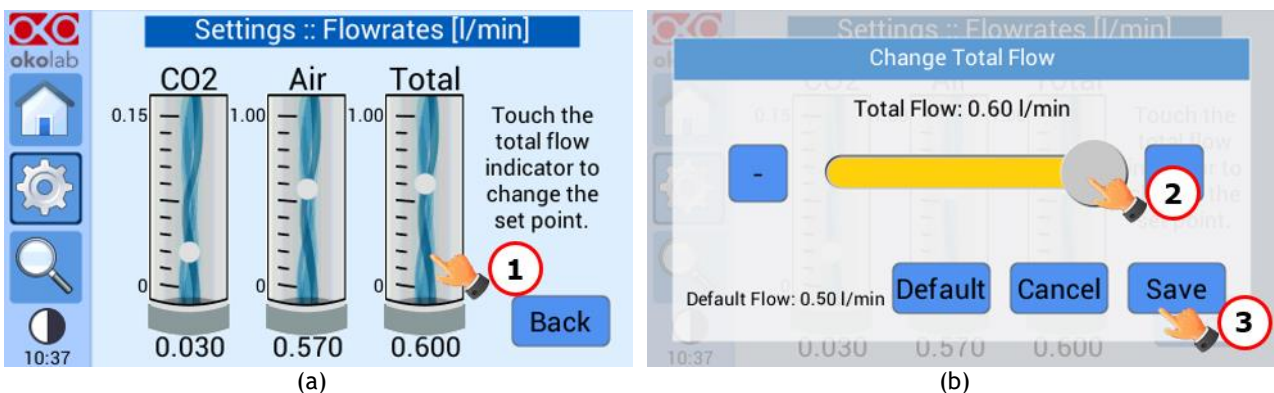

Figure 46. How to change the Total Flow set point.
1. Press on the Total Flow indicator, on the right in Figure 46(a);
2. Select the desired set point value, see Figure 46(b);
3. Press on “Save” button Figure 46(a).